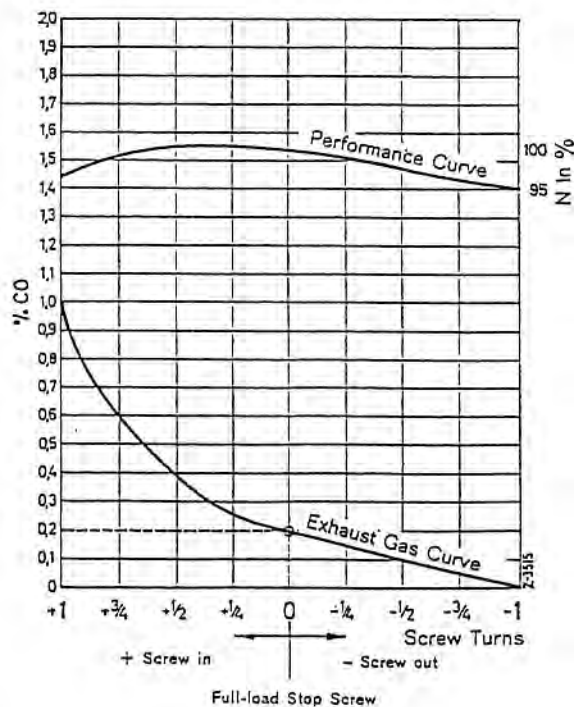

Fig. 00-19/6
3. If the prescribed exhaust gas value of 0.20 ± 0.05 % CO is exceeded or is not obtained, enter the read-off carbon monoxide value in the graph (Fig. 00-19/6) and adjust the full-load stop screw for the control rod stop on the injection pump in accordance with the turns obtained from the graph.